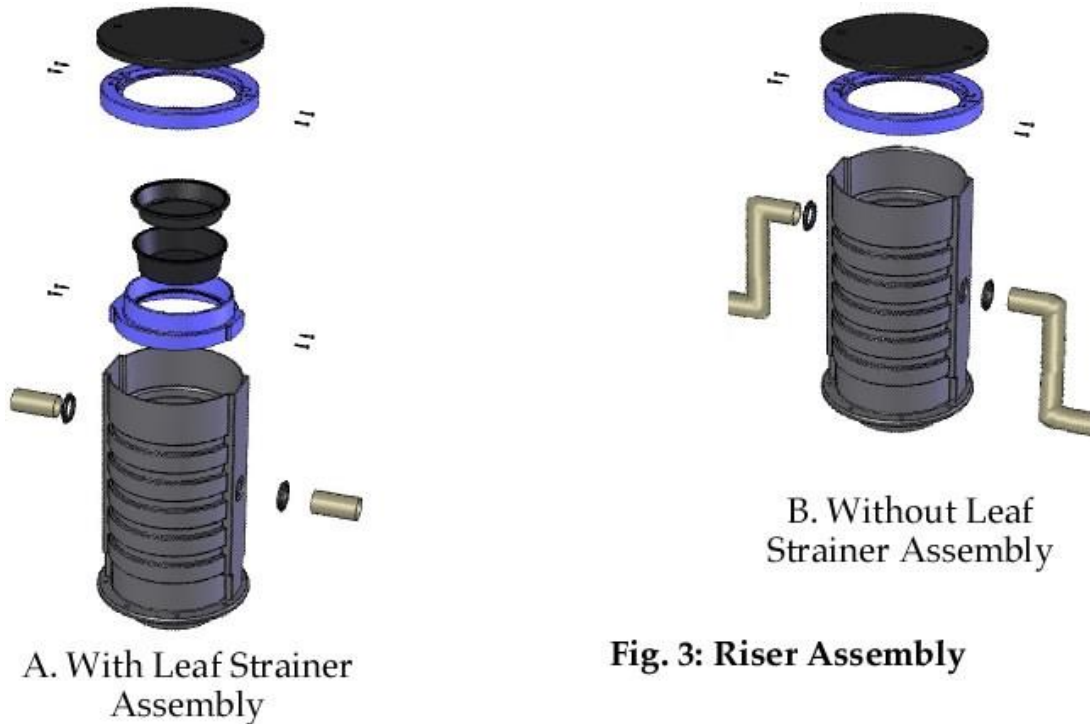

Fig. 3: Riser Assembly
An exploded view of the riser assembly is found in Figure 3 below.
- 1) Connect Storm water as per Figure 3 Riser assembly.